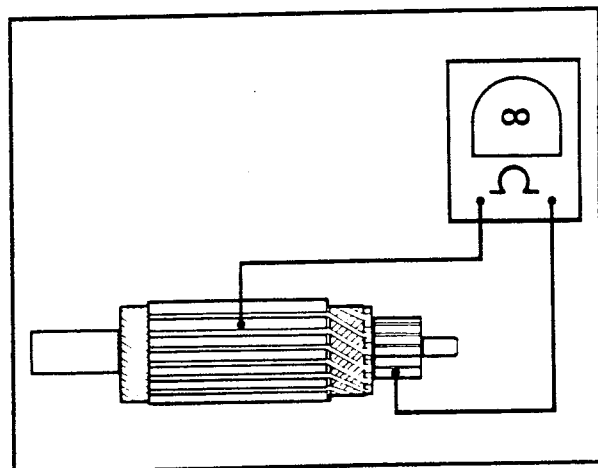

Figure 4-35. Grounded Armature Test
4. See Figure 4-35. Check for a GROUNDED ARMATURE with an ohmmeter or continuity tester. Touch one probe to any commutator segment, and the other probe to the armature core. There should be no continuity (infinite ohms). If there is any continuity the armature is grounded and should be replaced.